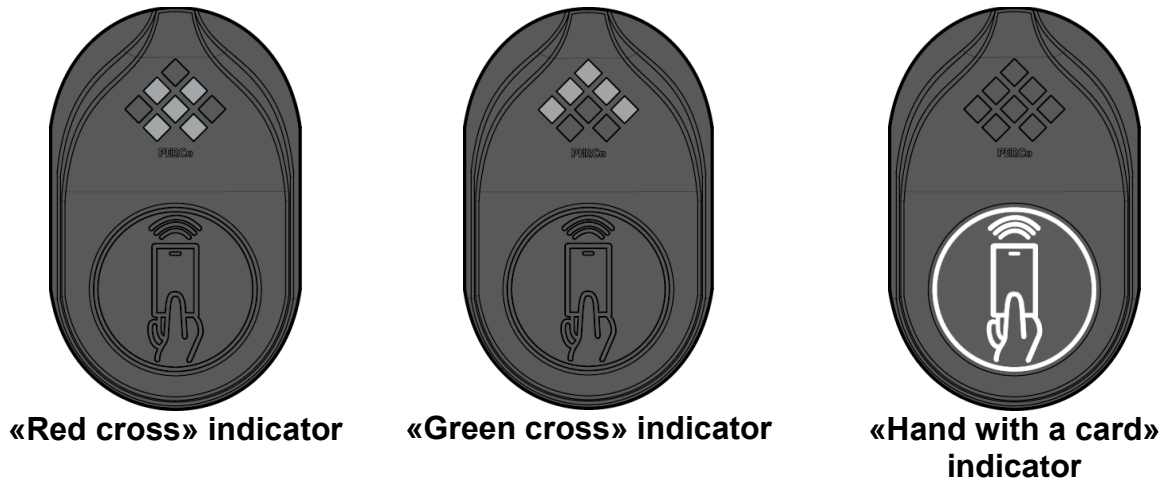

Figure 2. Indicators
Indication modules are located on the plastic side covers (7) and feature the following elements (Fig. 2):